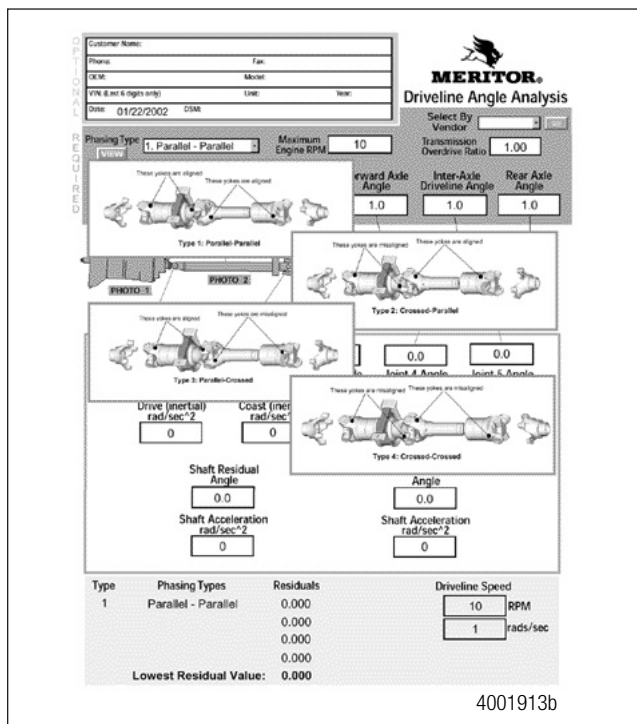

Figure 14.25
4. Enter the driveline phasing type. Click on the **VIEW** button next to the **Phasing Type** field to view examples of the four phasing types. Figure 14.25. Passing the cursor over the example types will close them.